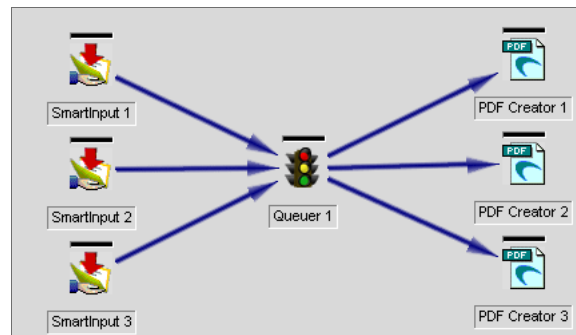

Figure 5.3 Modules linked
3. From the Control toolbar choose the Link tool—shown right—and link the modules to create a workflow. Start by linking the SmartInput modules to the Queuer module and continue until the modules are linked to form the workflow shown in Figure 5.3.